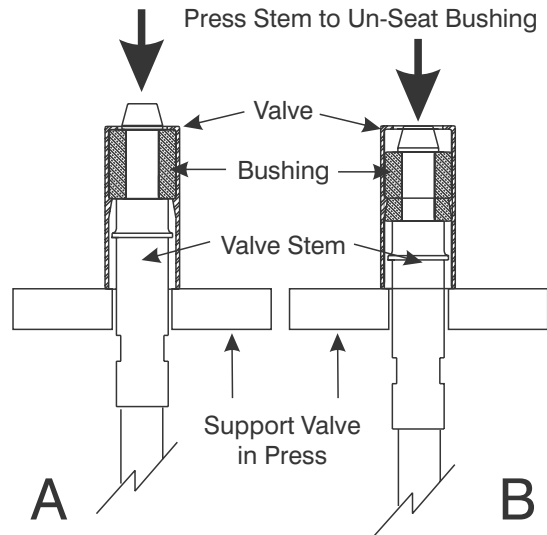

Figure 8-13. Valve Stem and Components in Arbor Press.
1. Refer to Figure 8-13-A, and position the Valve Stem (5) and its assembled components in an arbor press.
- Support the edges of the Valve (3) with standard blocking. Allow the Valve Stem to hang freely below the blocking.
- Place the plunger of the arbor press against the tip of the Valve Stem (5) protruding above the Valve.
2. Press the Valve Stem (5) and Bushing (4) from the Valve (3) as shown in Figure 8-13-B.